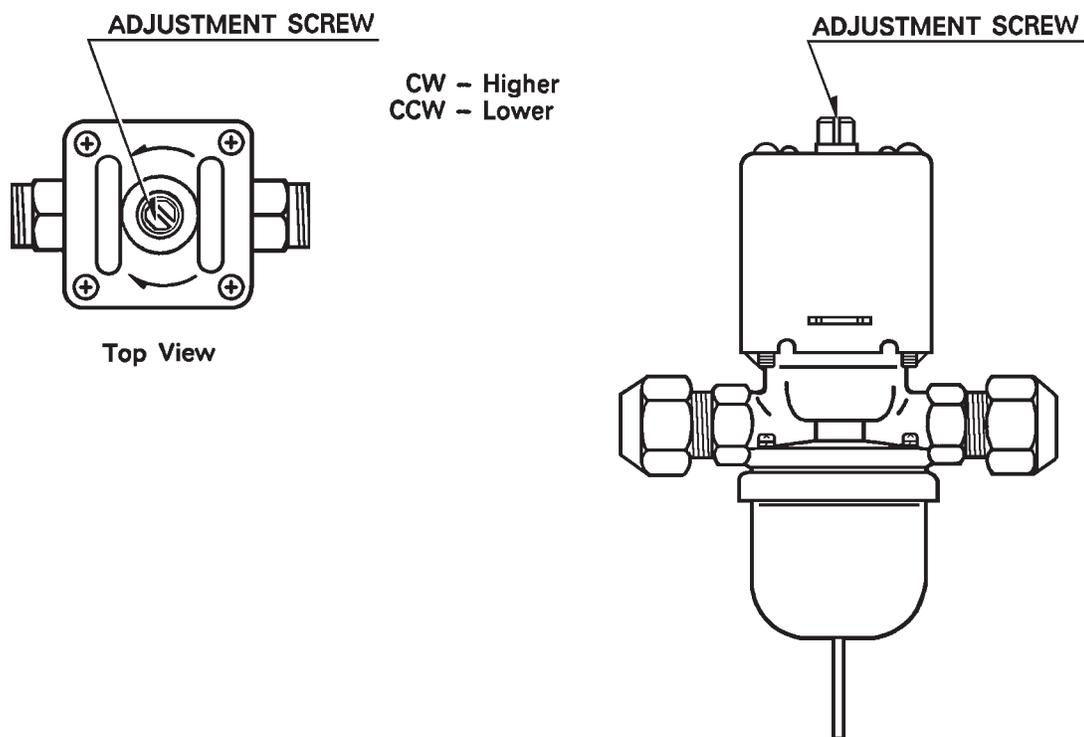

Fig. 22
- 2) Five minutes after a freeze cycle starts, confirm that the thermometer reads 104°F to 115°F (40°C to 46°C). If it does not, rotate the adjustment screw by using a flat blade screwdriver until the temperature is in the proper range. See Fig. 22. Next, check that the reference pressure is in the range indicated in the Head Pressure table. See “VIII. B. Performance Data”. If it is not in the proper range, verify the refrigerant charge.